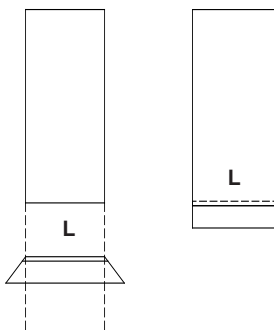

Figure 3a
2. Cut the miter from both ends of the 9" piece of moulding trimming the moulding to fit the false tread **L**. Fit and install the moulding to the false treads **L** using glue. Be sure that the moulding remains square to the tread. (See Figure 3a.)